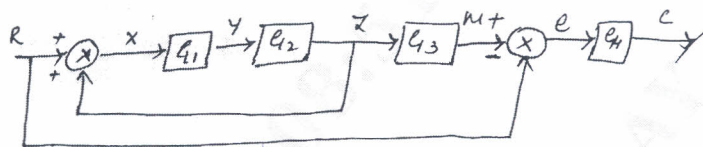

Fig Q7(b)
b. Determine the overall transfer function  $C(s)/R(s)$  for the system shown in Fig Q7(b)